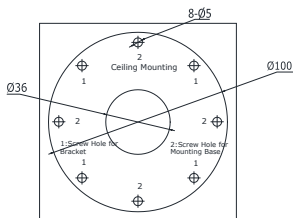

Figure 2-11 Drilling Holes in the Wall/Ceiling
1. Attach the drill template (supplied) to the wall where the camera is to be mounted and drill holes in the wall according to hole 2 on the drill template. See Figure 2-11.